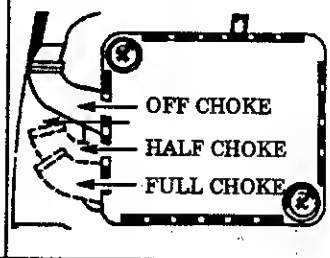

Figure 12
- Move Choke to "full" position. Figure 12 .
- Move Choke to "half" position. Figure 12 .
- Allow engine to run 5 seconds, then push Choke to "off" position. Figure 12 . *Keep Throttle Trigger squeezed until engine runs smoothly.*
NOTE: If engine does not start, pull Starter Rope 5 more pulls. If engine still does not run, it is probably flooded. Wait a few minutes and repeat procedure with Choke at "off" position. Figure 12 .
NOTE: If engine does not start after 5 pulls, it is probably flooded. Wait a few minutes and repeat procedure with Choke at "off" position. Figure 12 .